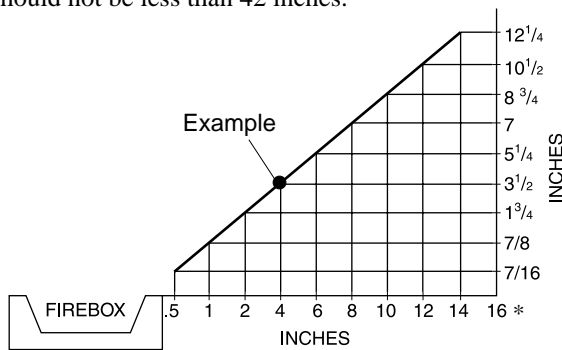

Figure 4 - Minimum Clearance for Side Combustible Material, Side Wall, and Ceiling
- A. Clearances from the side of the fireplace cabinet to any combustible material and wall should follow diagram in Figure 4.
Example: The face of a mantel, bookshelf, etc. is made of combustible material and protrudes 3 1/2" from the wall. This combustible material must be 4" from the side of the fireplace opening (see Figure 4).